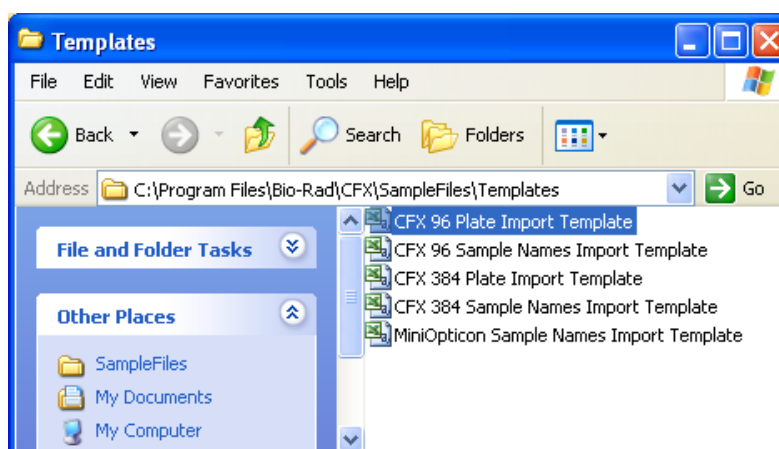

Figure 103. Opening the LIMS CFX96 Plate Import Template
2. Select either **CFX96 Plate Import Template.csv** or **CFX384 Plate Import Template.csv** and import into your internal LIMS (Figure 103).